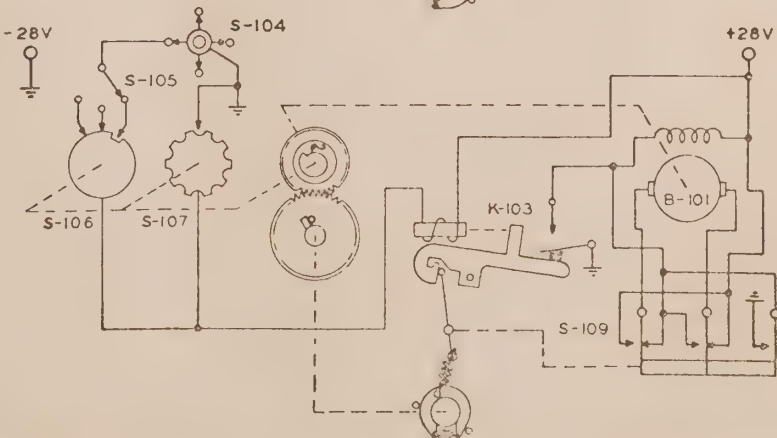

Figure 4-4. Autotune Sequence of Operation (Sheet 2 of 2 Sheets)
b. SEQUENCE OF OPERATION.—The sequence of operation is explained fully in figure 4-4.